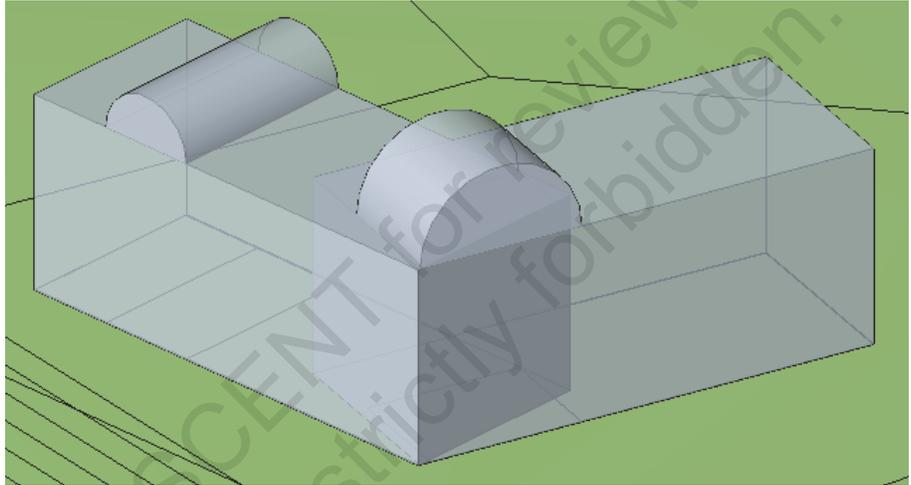

Figure 1–23
10. Align them and then use shape handles to position them, as shown in Figure 1–23.